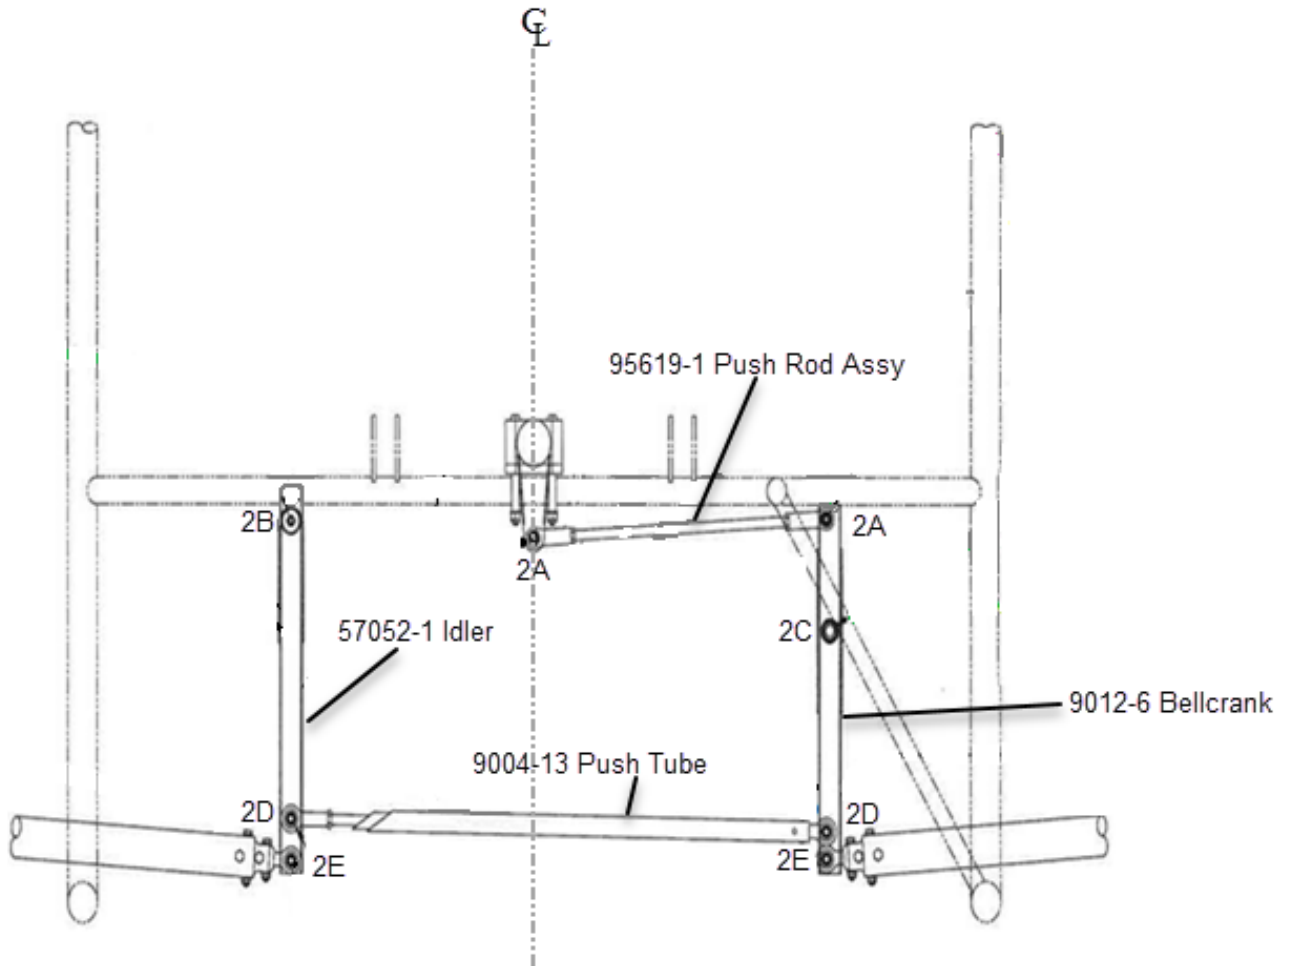

Figure 45-10
Remove existing hardware at 95619-1 Push Rod, 57052-1 Idler, 9004-13 Push Tube, and 9012-6 Bellcrank attach points. See Figure 45-10.
Remove 901-22 Push Tube and replace with 95619-1 Push Rod Assembly. See figure 45-10.
- c) Install new hardware. See Figure 45-10 and Table 45 A. Torque hardware per Appendix B Torque Chart.